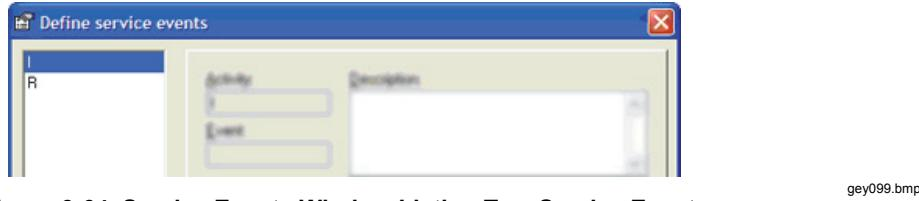

Figure 3-64. Service Events Window Listing Two Service Events
6. Repeat steps 4 and 5 and add a second service event with activity name R to represent repair. Figure 3-64 shows the two service events just created.